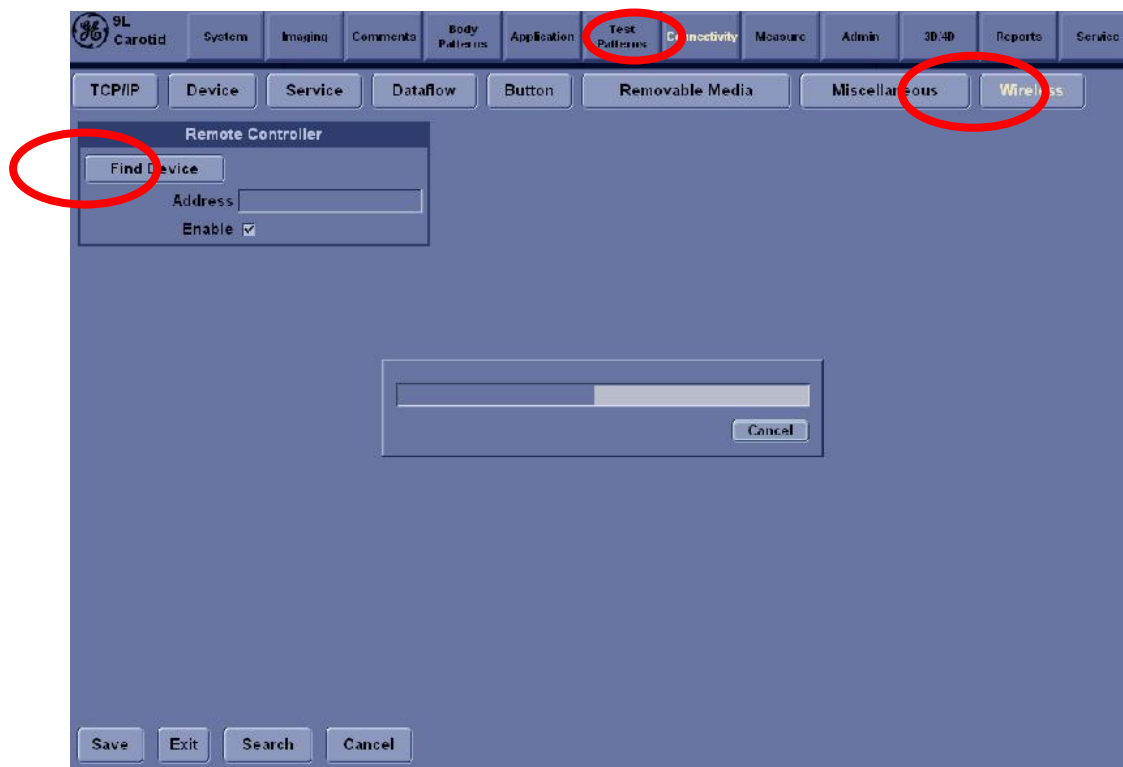

Fig.4 Wireless and Find Device
- 6) Click Find Device.(Fig.4)